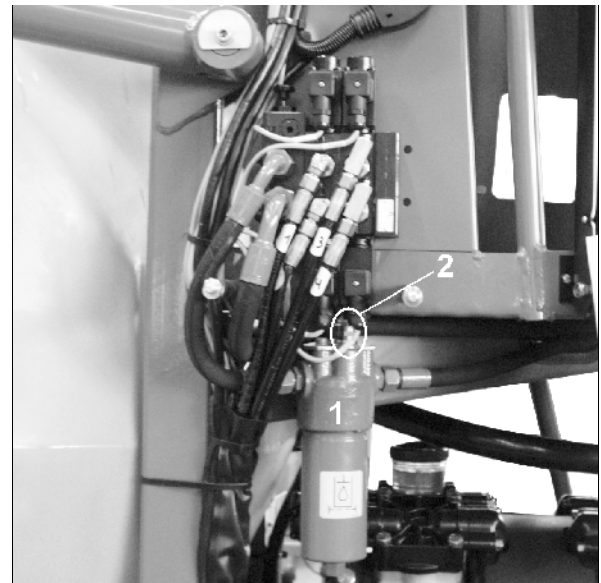

Fig. 23
The oil filter (Fig. 23/1) with its dirt indication (Fig. 23/2) checks the cleanliness of the hydraulic oil.
- Check the dirt indication (Fig. 23/2) in regular intervals to ensure the proper functioning of the hydraulic system and its parts.
- Immediately exchange the oil filter (Fig. 23/1) when a red ring is visible instead of the green ring.
Only exchange the oil filter (Fig. 23/1) when the hydraulic system is pressure free. Danger of injury by hydraulic oil leaking under high pressure.